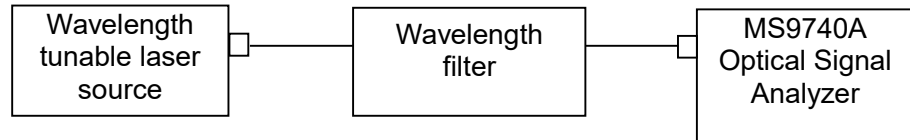

Figure 7.2.3-1 Dynamic Range Performance Test Setup
1. Connect the test equipment to the MS9740A as shown in Figure 7.2.3-1.